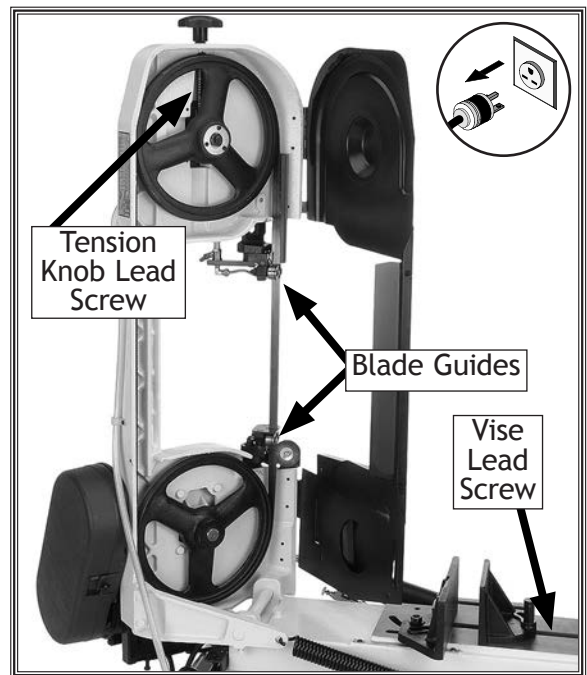

Figure 45. Main lubrication points.
- **Blade Tension Mechanism:** Open the main blade guard and drop a few drops of oil on the tension knob lead screw (see **Figure 45**).
- **Vise lead screw:** Drop a few drops of light machine oil on the vise lead screw weekly (see **Figure 45**).